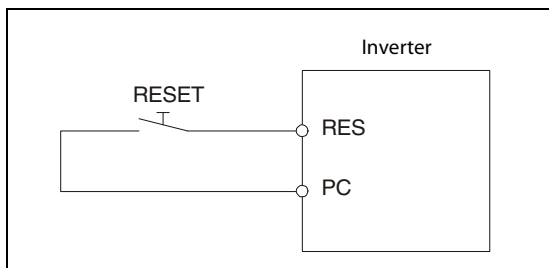

Fig. 7-2:
- Turn on the reset signal RES for more than 0.1s. (Connect the terminals RES and SD when using sink logic or terminals RES and PC as shown Fig. 7.2 when using source logic).